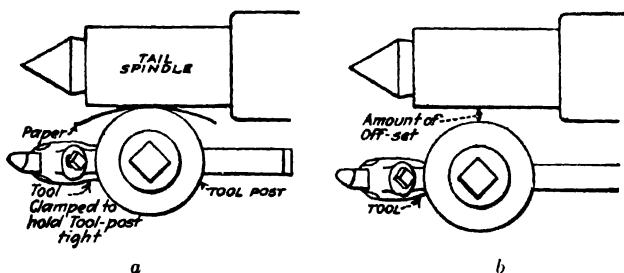

Fig. 16-4. Offsetting tailstock for taper turning.
**Methods of Gaging Offset.** Assume that the lathe is set for straight turning and that a certain amount of offset is required to turn the taper. Hold the tool post rigid by clamping a tool as in Fig. 16-4.